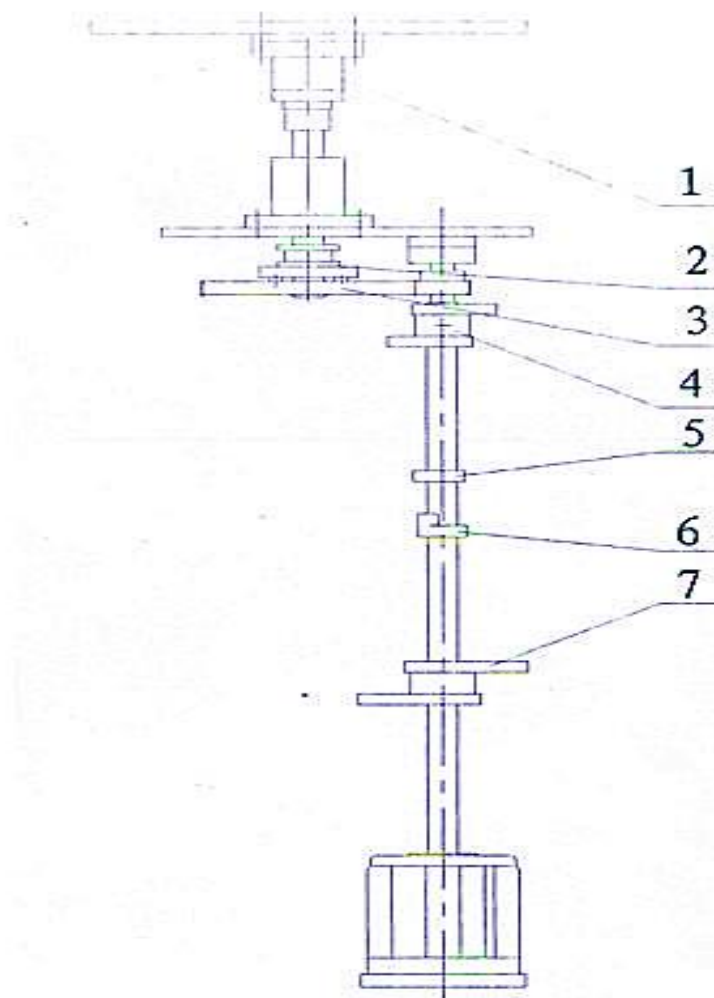

Figure 4
- 10) Adjust volume of the measuring cup, coincide with the requirements of the packaging, achieve it by rotating adjust nut of measuring cup 1 (view figure 4).